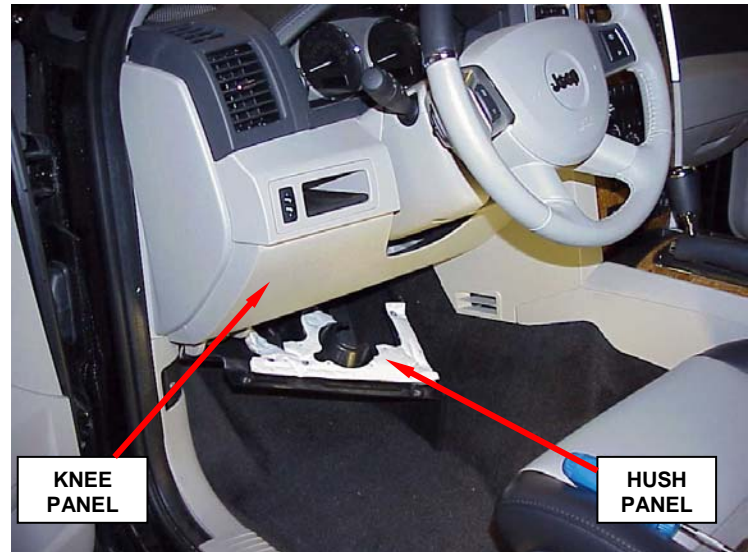

Figure 9 – Panel Locations
- 51. Install the driver side knee panel and hush panel (Figure 9).